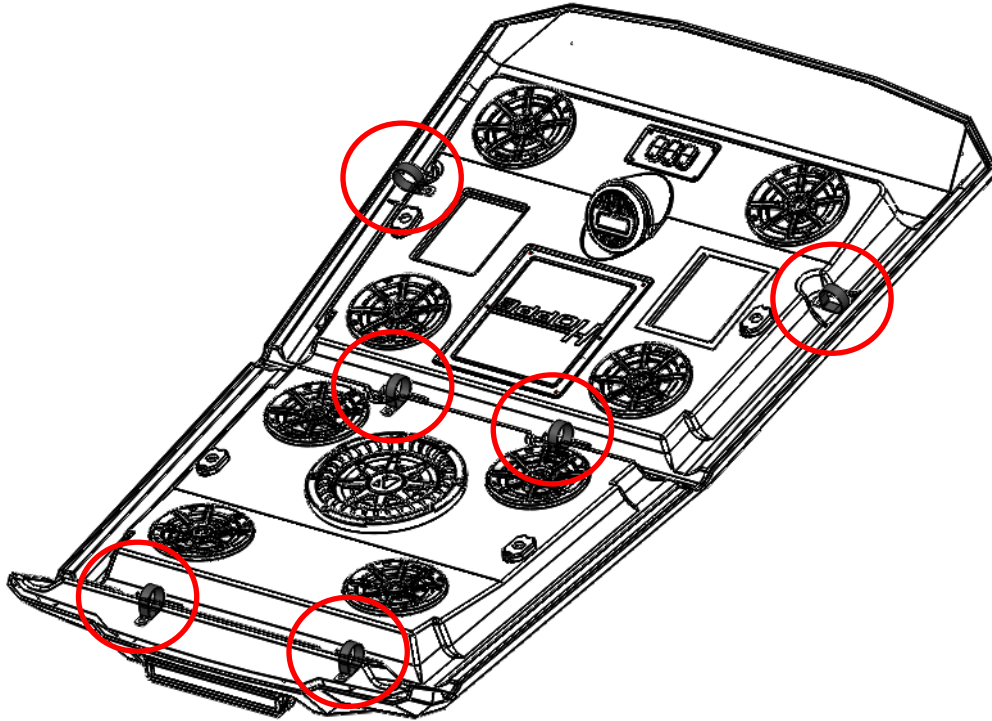
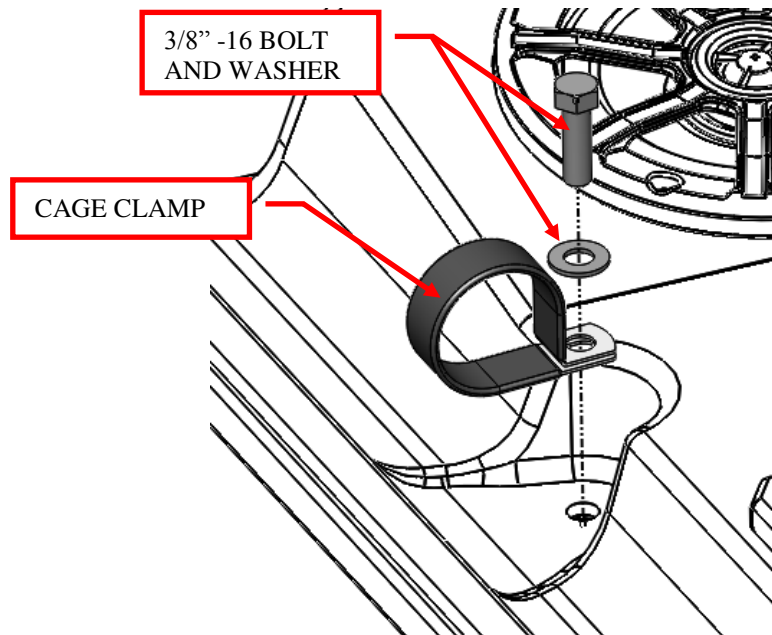

Figure 2: Remove the 6 clamps from the top.
Figure 3: Close up of cage clamp hardware.
1. Remove the cage clamps and 3/8"-16 bolts and washers that come pre-installed on the top. Save the hardware for installation. See Figure 2 and Figure 3.
4. Slide the clamps into position so they line up with the threaded holes in the top. For all 6 clamps, install the 3/8-16 bolt with washer through both clamp tabs and into the threaded hole in the top. Use blue Loctite 243 (medium strength) and torque the bolts to 25 ft.*lbs. See Figure 3.